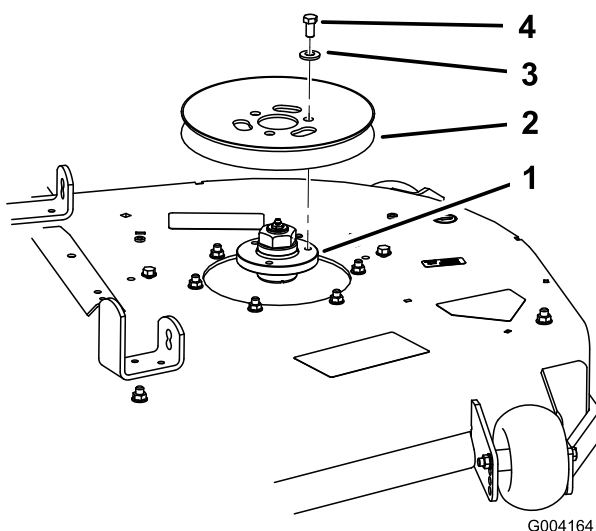

Figure 3
2. Align the three holes in the deck pulley with the three holes in the spindle hub and install 3 bolts (3/8 x 3/4 inch) and 3 small curved washers (Figure 3).